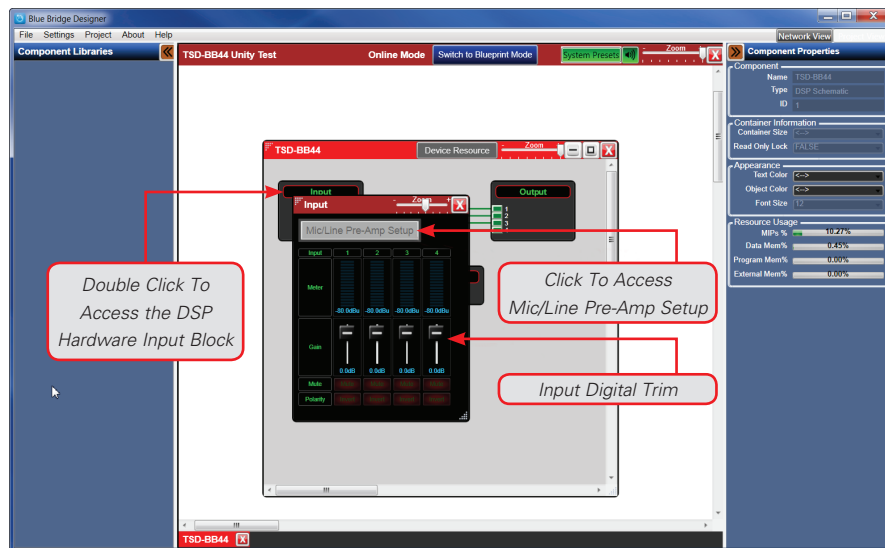

Figure 22
- Double clicking on the DSP Hardware Input Block will launch the first stage of gain control as shown in Figure 22.
- BlueBridge DSPs are unique in that the first window allows control of the Digital Trim and access to the Analog Mic/Line Pre-Amp setup block as shown in Figure 22. **Note:** It is always important to select and set the gain structure in the Analog domain first. Digital Trim is POST (after) the Analog gain setting.